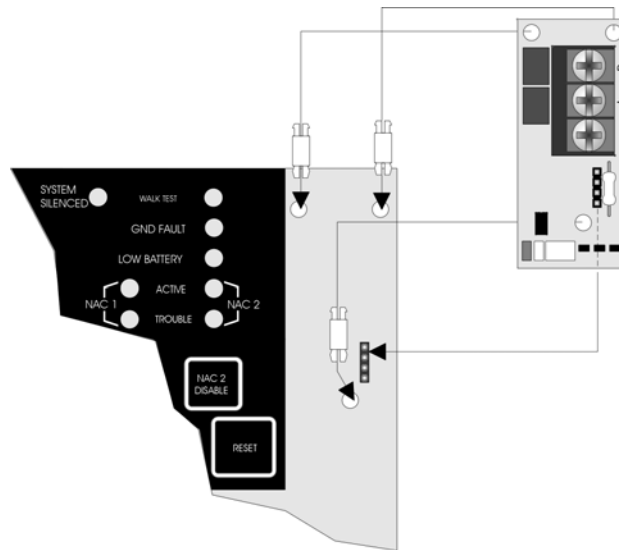

Figure 4-8 Model SK-2884 Connector and Stand-off alignment
3. Plug the SK-2884 Serial board onto the SK-2224 control panel by aligning the 4-pin connector and the stand-offs with their respective receptors. See Figure 4-8.